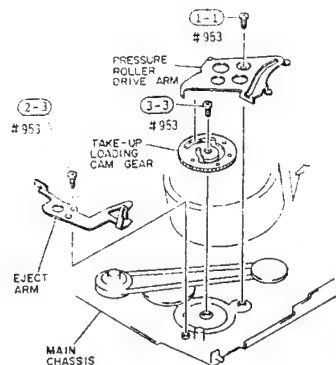

Fig. 2-70
- 1) Remove one (1) screw holding the pressure roller drive arm. (See Fig. 2-70)
(2) Eject Arm
- 3) Remove one (1) screw holding the eject arm. (See Fig. 2-70)
- 3) Remove one (1) screw holding the take-up loading cam gear. (See Fig. 2-70)